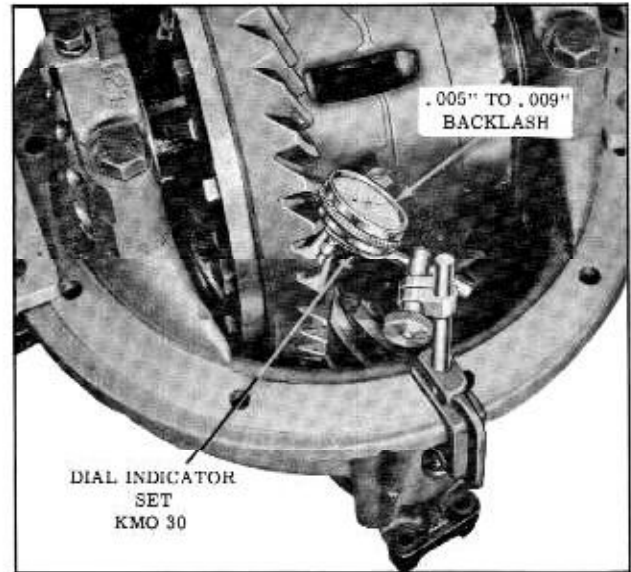

Fig. 6-14 Measuring Backlash
2. If original pinion gear and ring gear are to be reinstalled, install dial indicator set KMO-30 as shown in Fig. 6-14. Measure backlash at two points (180° apart). The lowest reading should be within .005" to .009".